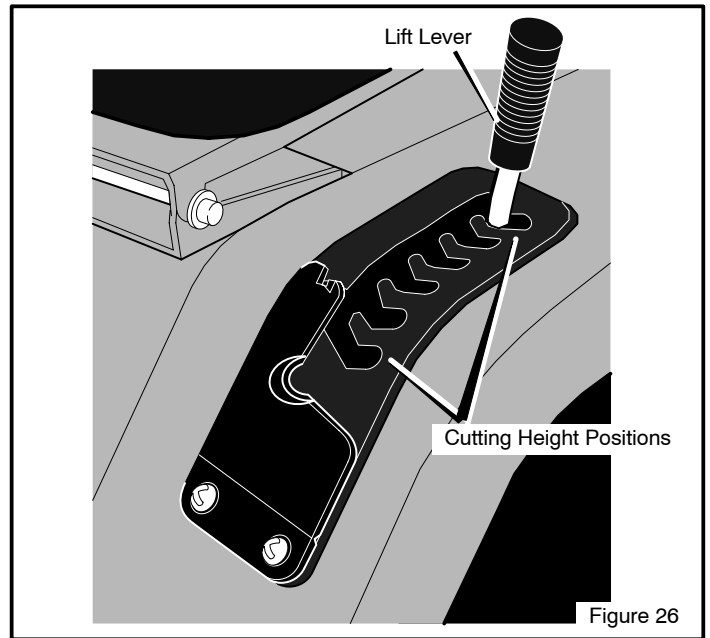

Figure 26
2. Mow a short distance on a flat level area to check the level of cut and the height of cut. Look at the **height of cut position number** on the **lift lever** (Figure 26).